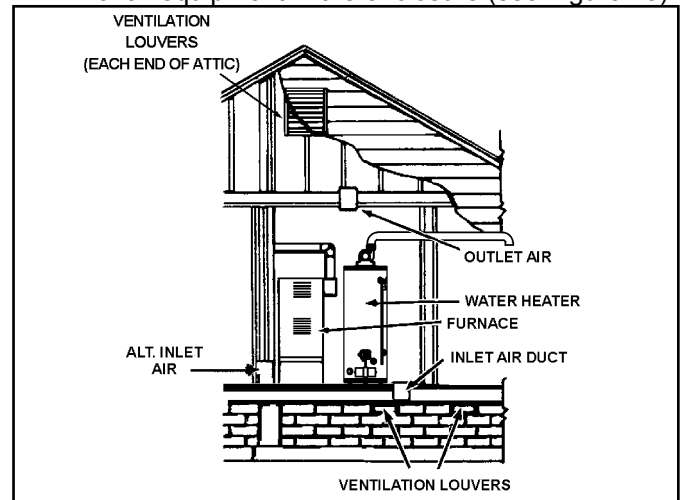
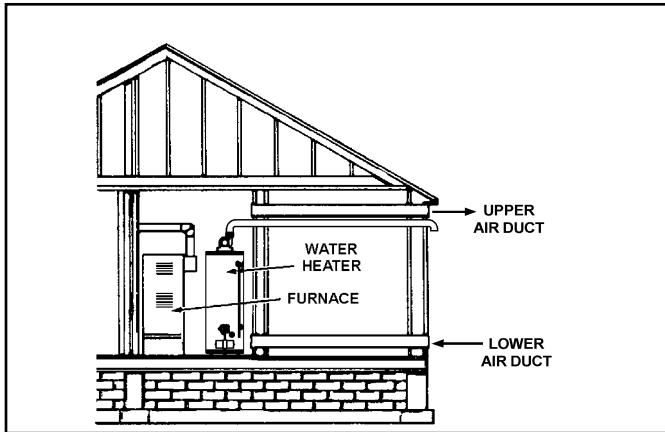

Figure 18
Figure 20
B. ALL AIR FROM OUTDOORS: (See Figure 18 thru Figure 20)
1. When directly communicating with the outdoors, each opening shall have a minimum free area of 1 square inch per 4,000 Btu/hr of total input rating of all equipment in the enclosure (see Figure 18).
- When communicating with the outdoors through horizontal ducts, each opening shall have a minimum free area of 1 square inch per 2,000 Btu/hr of total input rating of all equipment in the enclosure (see Figure 20).
- When ducts are used, they shall be of the same cross-sectional area as the free area of the openings to which they connect. The minimum short side dimension of rectangular air ducts shall not be less than 76mm (3 in.) (see Figure 20).